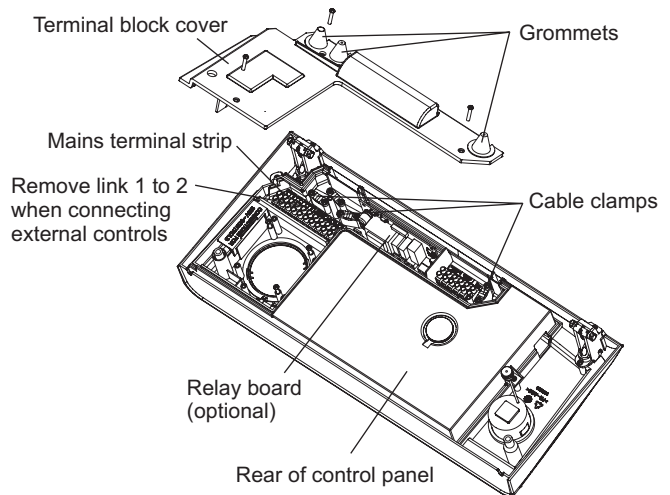

Fig. 4.15
4.10 CONNECT THE MAINS SUPPLY - Fig. 4.15
Remove the three screws securing the terminal block cover from the back of the control box (see Fig. 4.15). Pass the mains supply cable through the cable clamp and connect as follows:- Brown to L, Blue to N and Green/Yellow to $\perp$. Ensure correct polarity.